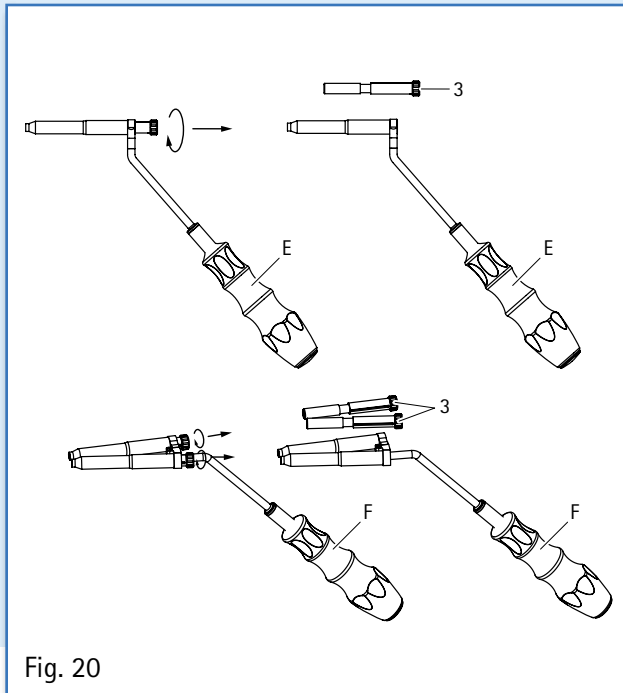

Fig. 20
- Attach guide sleeve 3 by turning it counterclockwise. (See Fig 20 on page 17)